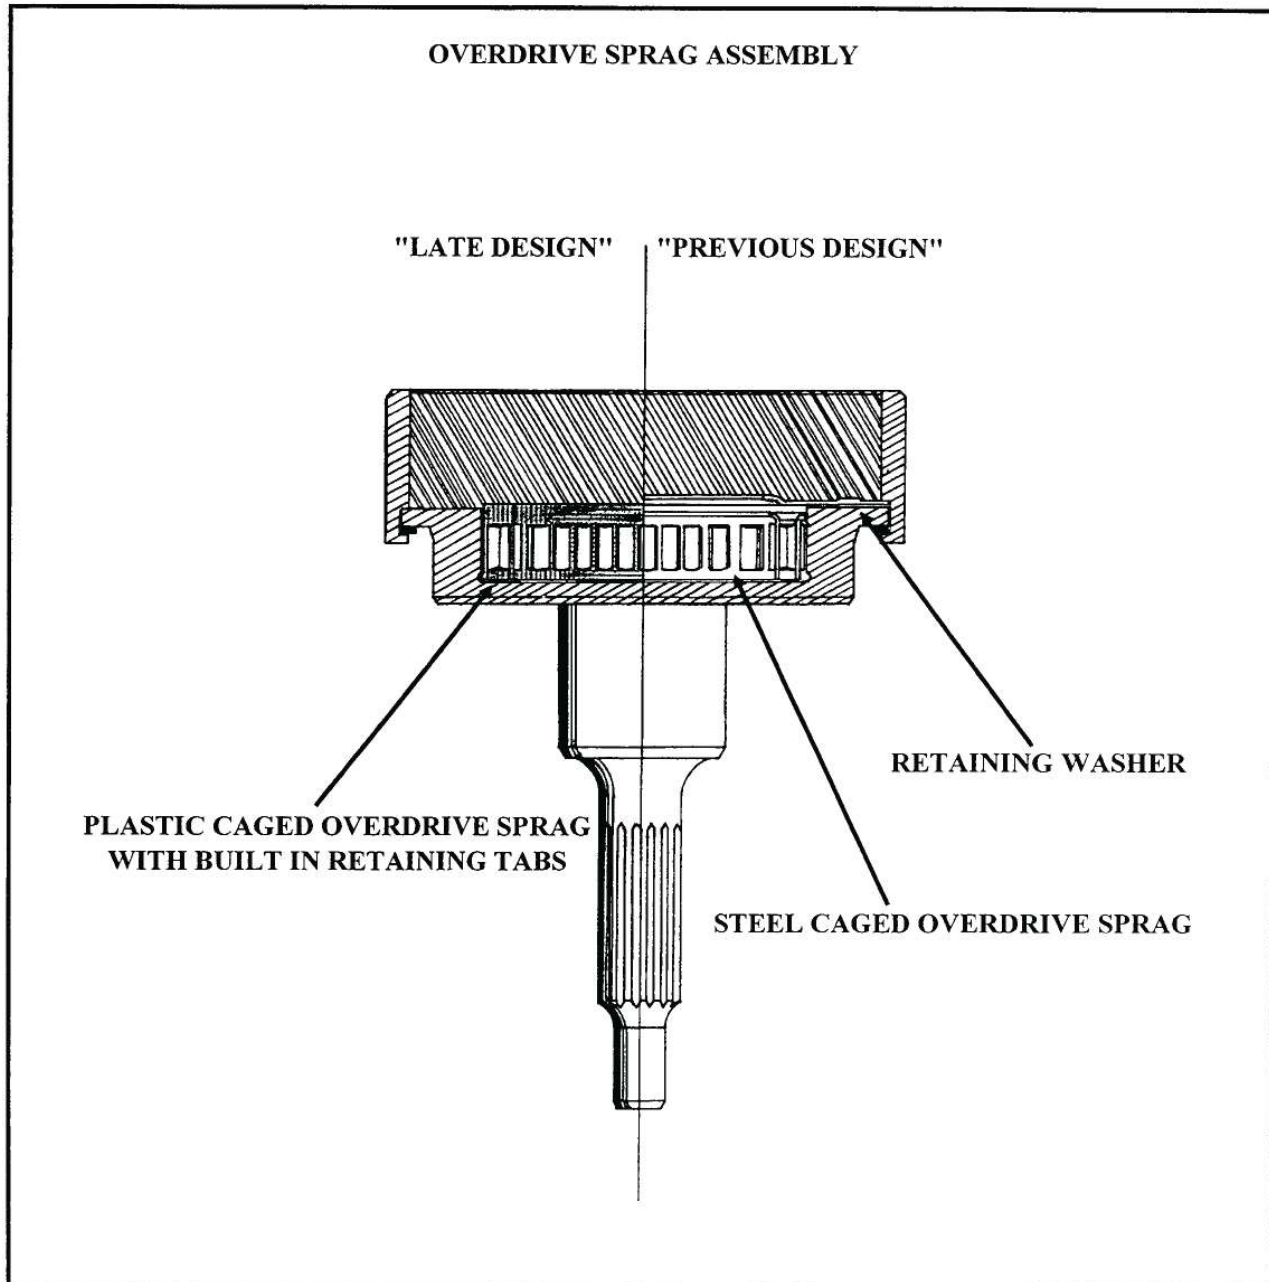

Figure 24
**CHANGE:** Vehicles equipped with A4LD transmissions built after June 9, 1992 contain a plastic caged overdrive sprag assembly that is no longer serviced. The previous design steel caged sprag and all related parts must be used for service (See Figure 24).